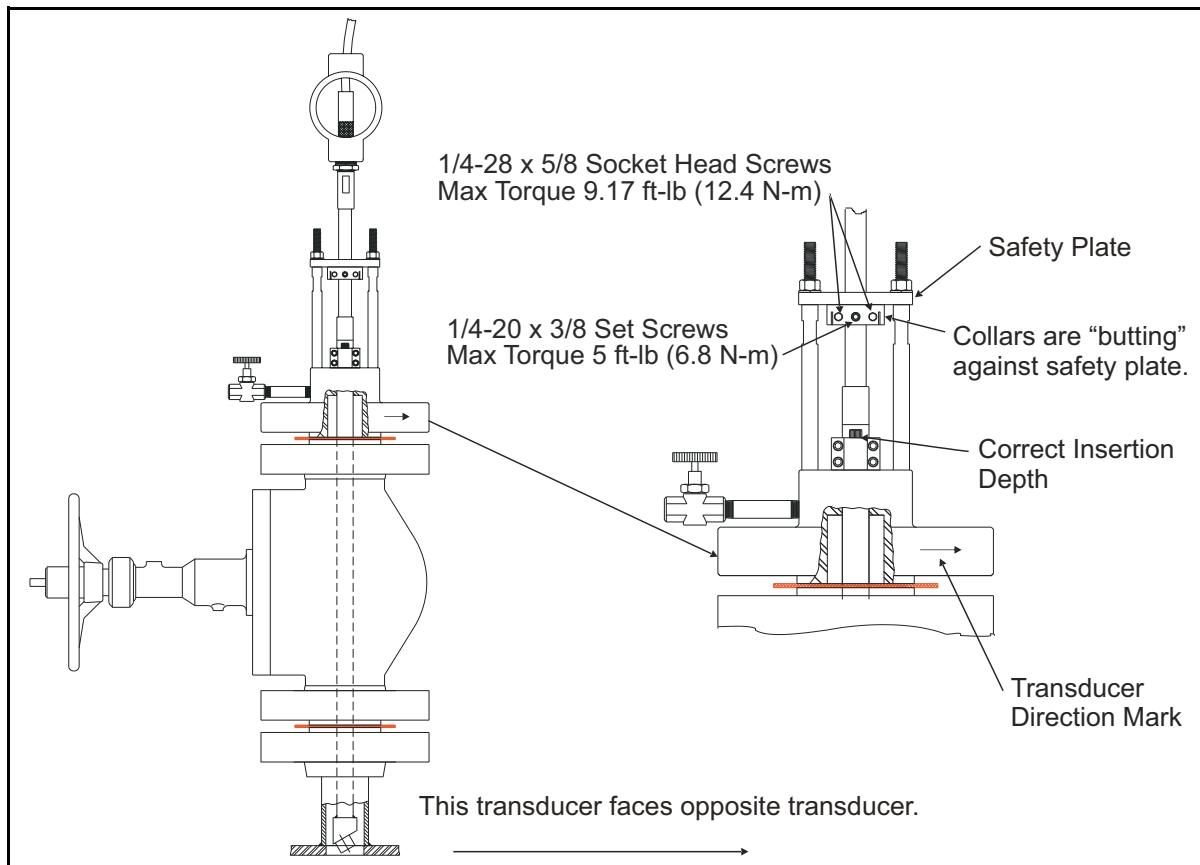

Figure 37: Aligning the Transducers
1. At each transducer installation point, refer to *Figure 37* below and verify that: